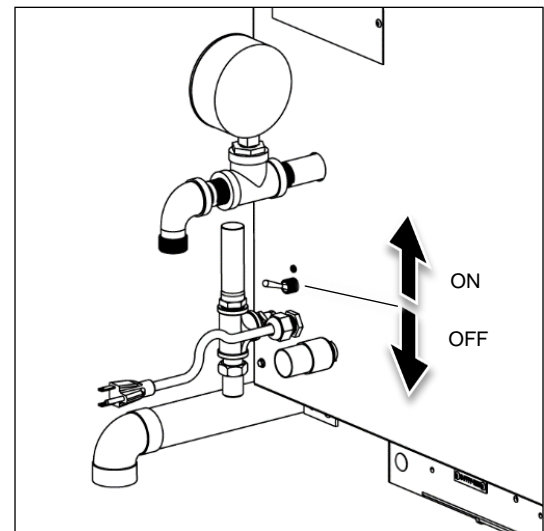

Figure 6-1
- Check the rotisserie electrical power: If the rotisserie's lights are off, check the circuit breaker on the back of the rotisserie as shown in Figure 6-1. If the circuit breaker is 'OFF' (tripped), return to 'ON'.